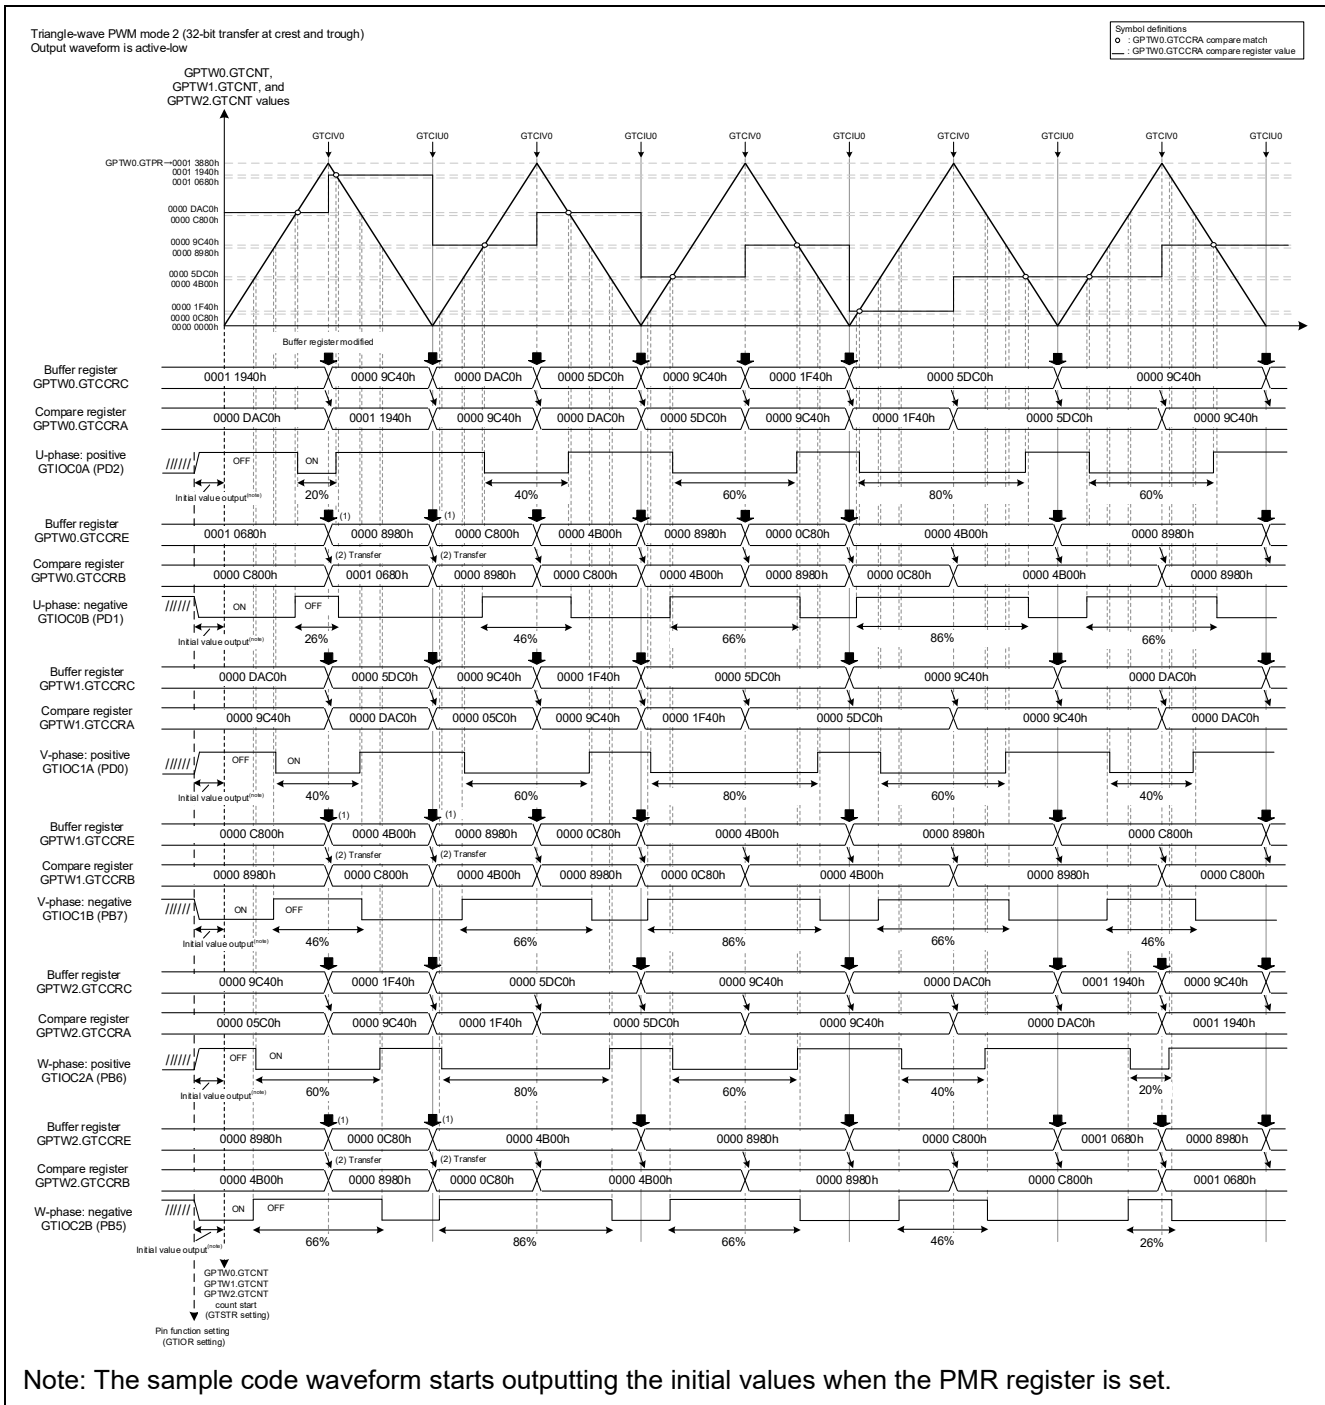

Figure 4.66 When Not Using Automatic Dead Time Setting Function (Triangle-wave PWM Mode 2)
Figure 4.66 shows an example of operations when the automatic dead time setting function is not used (GTDTCR.TDE bit is 0).
Similar to the positive-phase, in the negative-phase the compare value is updated with every cycle by modifying buffer register GTCCRE when the GTCNT counter overflow interrupt (GTCIV0) and GTCNT counter underflow interrupt (GTCIU0) are generated ((1) in Figure 4.66) and transferring buffer register GTCCRE to the compare register GTCCRB when the GTCNT counter overflow (crest) occurs ((2) in Figure 4.66).